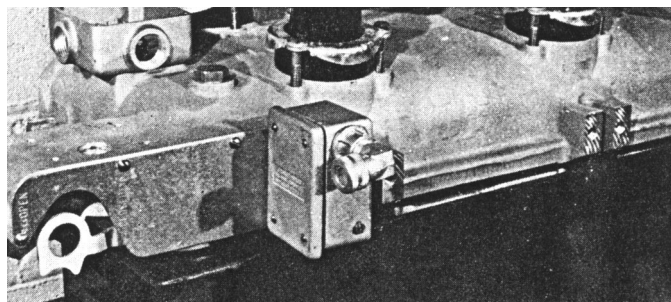
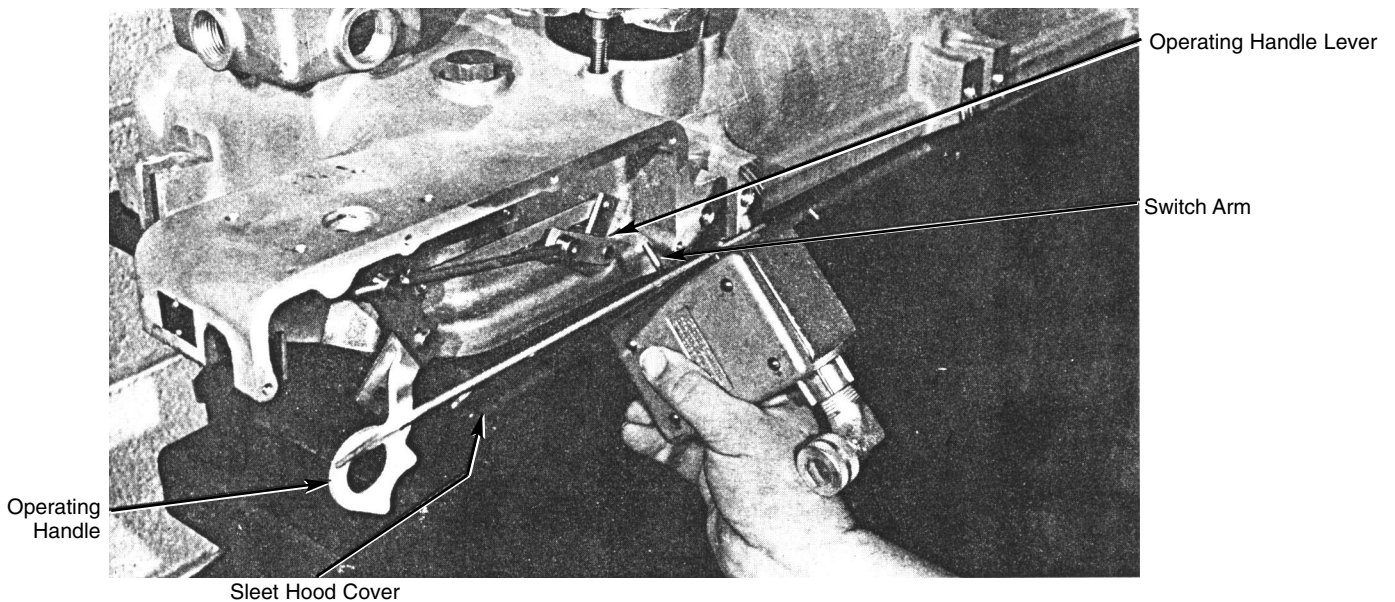

Figure 1.
Figure 2.
The lockout-indicating switch accessory can be factory-installed as a complete unit (Figure 1) or field-installed with a new sleet hood cover (Figure 2).
4. Be sure operating handle is down (Figure 2). Install lockout-indicating switch by positioning the switch arm to the right of operating handle lever as shown in Figure 2.